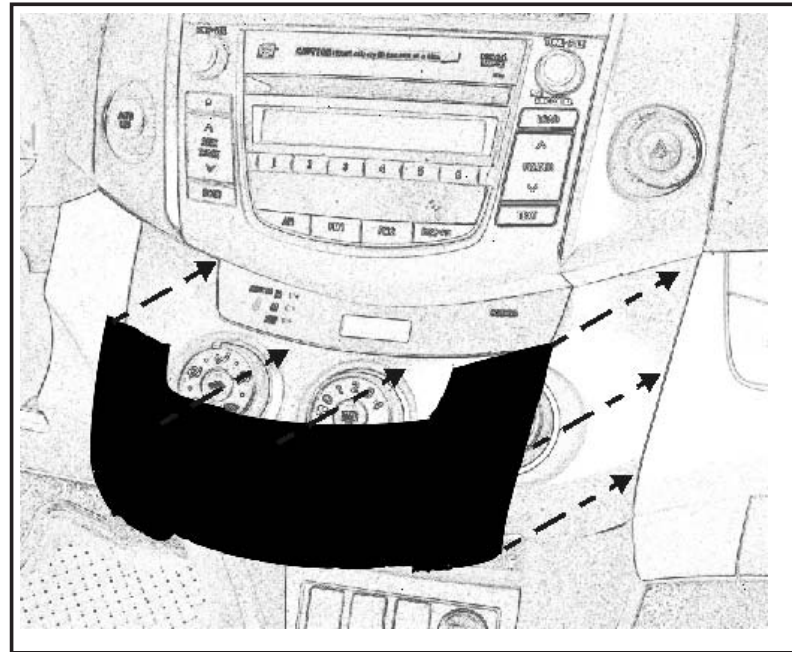

Fig. F1
- ⚠ B. Align part uniformly to edge of factory components. Edge of appliqué should be flush to edge of factory component,  $\pm 1.0\text{mm}$ . (Fig. F1).